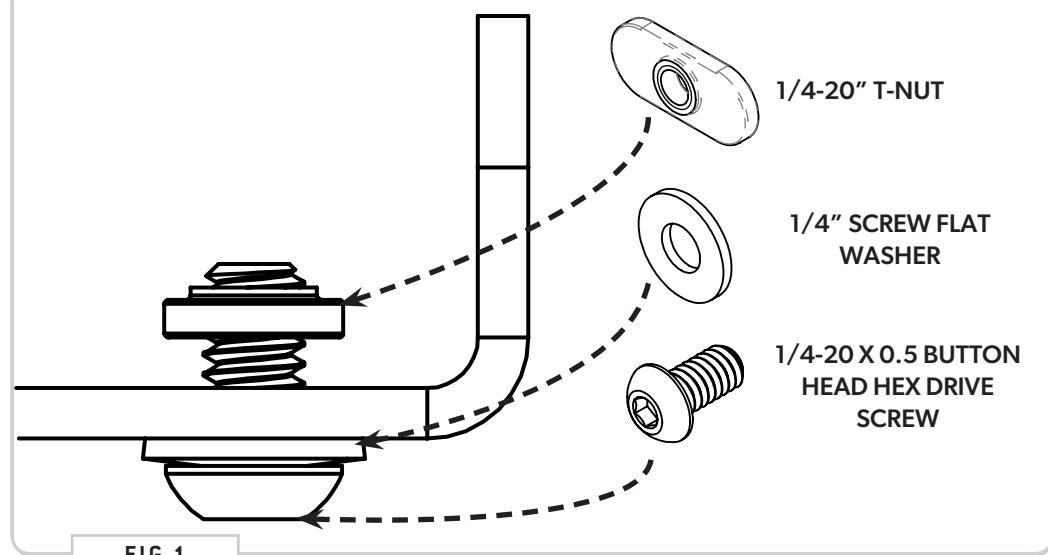

FIG 1
1.2 Fairing Assembly: Insert the hardware as shown in **FIG 1** into the available slots in the fairing. You'll only want to screw the t-nuts on a little in order to provide clearance for the next step.